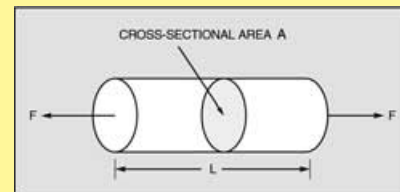

Fig. 4.13. Forces on a rod of metal.
If we consider a metal rod of length L metres (m) and cross-sectional area A square metres (m^2) as shown in Fig. 4.13 and we apply a force F Newtons (N) in such a way as to pull the rod apart, we can define the tensile stress as
If we look at the constitution of a metal at the atomic level, it is a lattice of atoms held together in equilibrium and the spacing between atoms determines the physical size of the object. When we apply a force, the atoms will re-arrange themselves in order to keep equilibrium. The atomic spacing will change and so will the physical dimensions, i.e. the object will *deform*. This resulting deformation is called a *strain*. Panel 4.1 and its Fig. 4.13 give a detailed description of stress and strain.